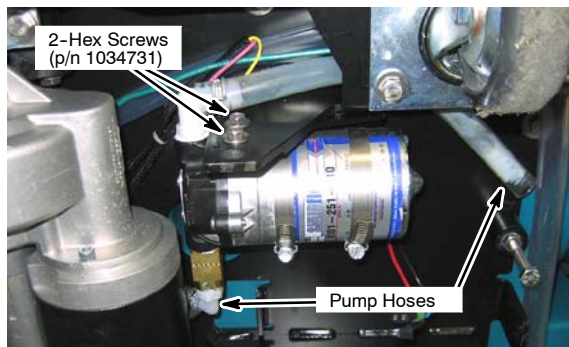

Fig. 35
3. Mount the pump assembly to the machine frame with two M6x1.00x16 hex screws [p/n 1034731] as shown (Figure 35). Route the two pump hoses as shown.